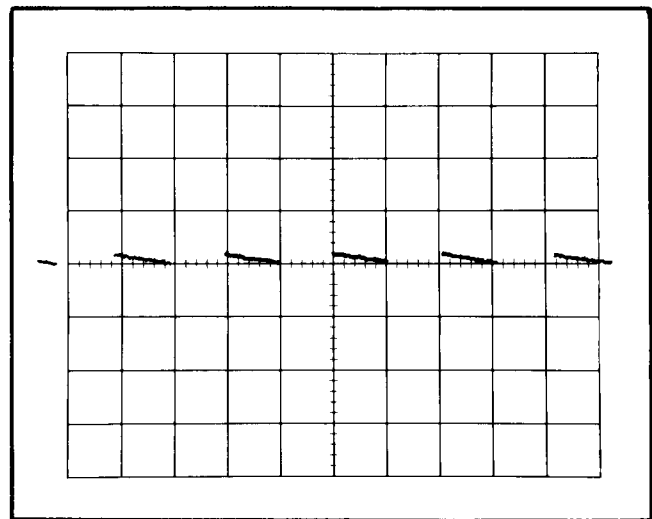

Fig. 2-6. Adjustment of Current Probe LF COMP.
Only the voltage difference between two signals is amplified and displayed in differential measurements, while the common-mode signals (common in amplitude, frequency and phase) are rejected. See Fig. 2-6.
e. Adjust the Type 3A9 L F COMP control for a square wave having a slope of 1% (1 minor division as shown in Fig. 2-6). If using the Standard Amplitude Calibrator 5 mA current test loop, adjust L F COMP for one-half of one minor division of slope.